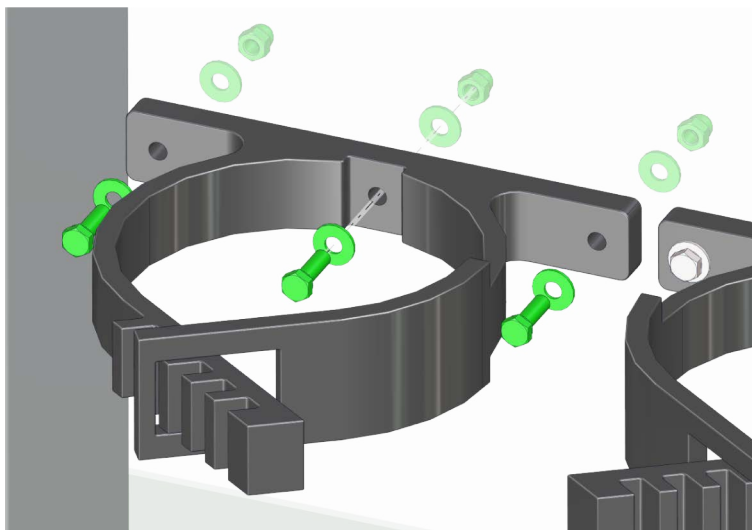

Fig 3.3 Remove/Fit Gas Cylinder Straps
- Remove 3off M5x16 hex head bolts and dome nuts complete with washers, holding strap in place (Fig 3.3).
- Tighten (Fig 3.3).